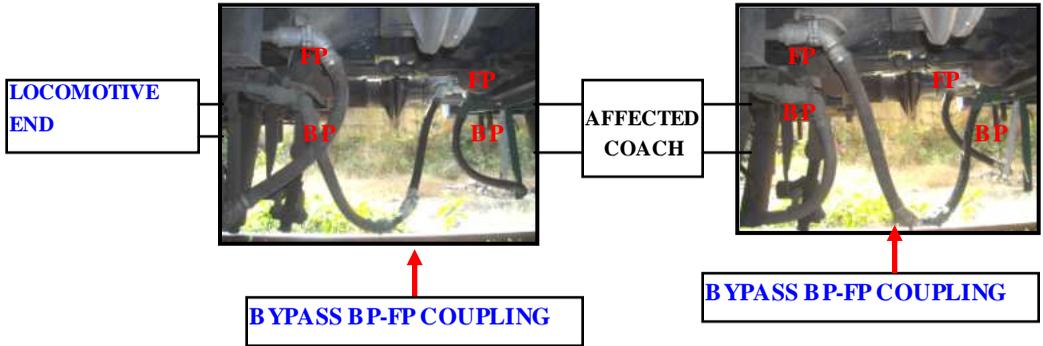

Fig. 1
- b. Close the FP and BP cut off angle cocks of loco end adjacent coach and the affected coach respectively. Wait till pressure of both air hoses releases. Uncouple BP and FP air hoses. Couple BP-FP BYPASS coupling between BP air hose of loco end adjacent coach and FP air hose of the affected coach. Place the spare hanging air hoses on hooks as in Fig. 1